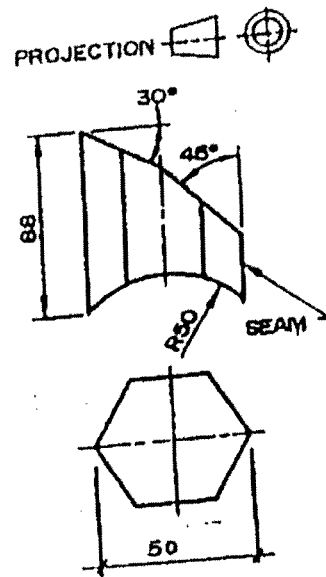

Fig. Q3(b)
- (b) Fig. Q3 (b) shows 2 views (i.e Front and Plan) of part of a regular prism. Side of base 20 mm is truncated at top and cut away from below as shown. Develop the lateral surface of the remaining prism. (7 marks)